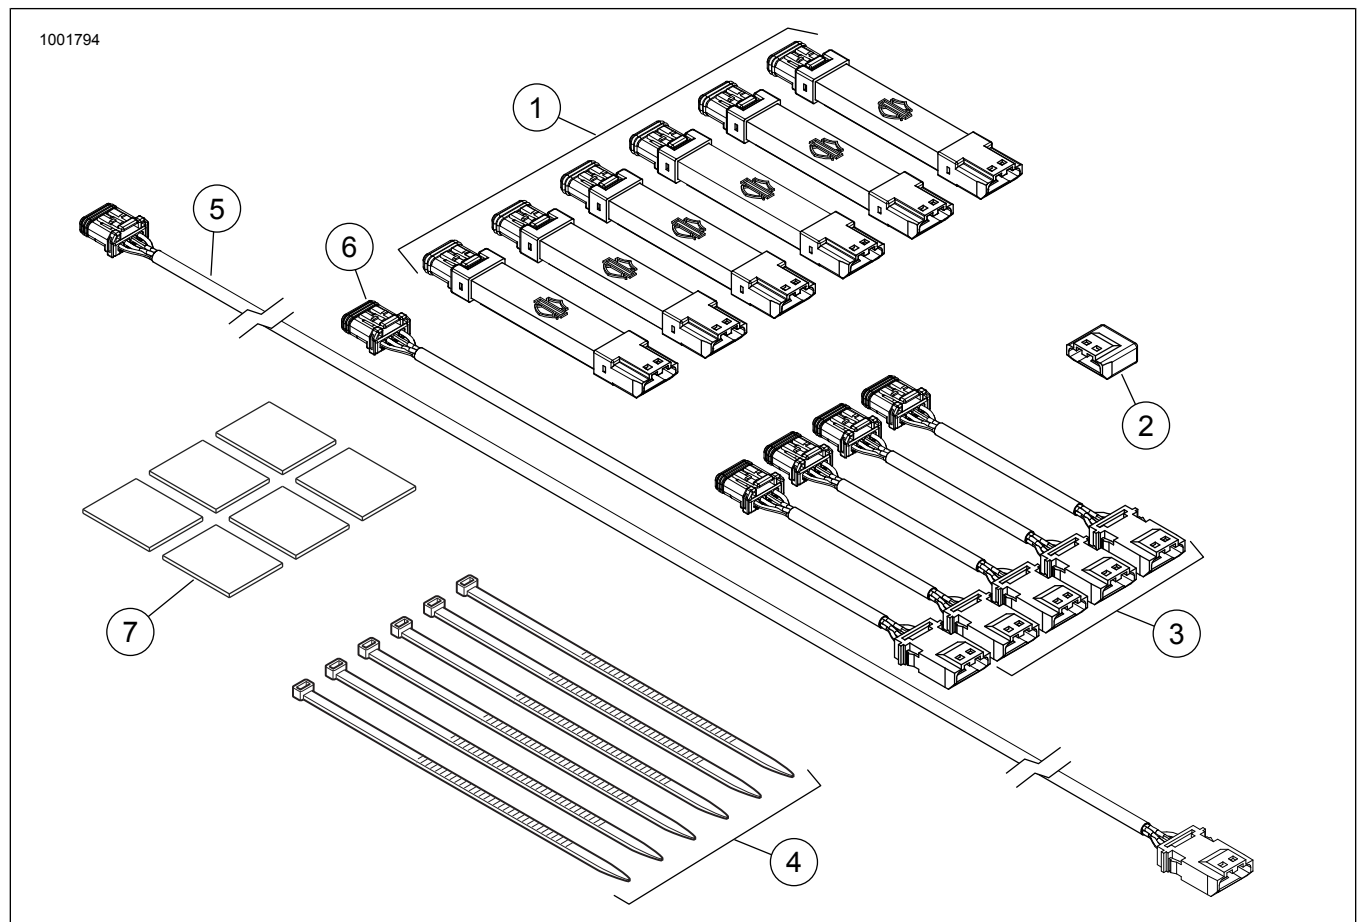

Figure 2. Service Parts, Spectra Glo Light Pod Kits
See Figure 2 and Refer to Table 1.
2. Figure 2 Assemble (dry fit) light pods (1) and harnesses (3, 5 and 6) in desired configuration.